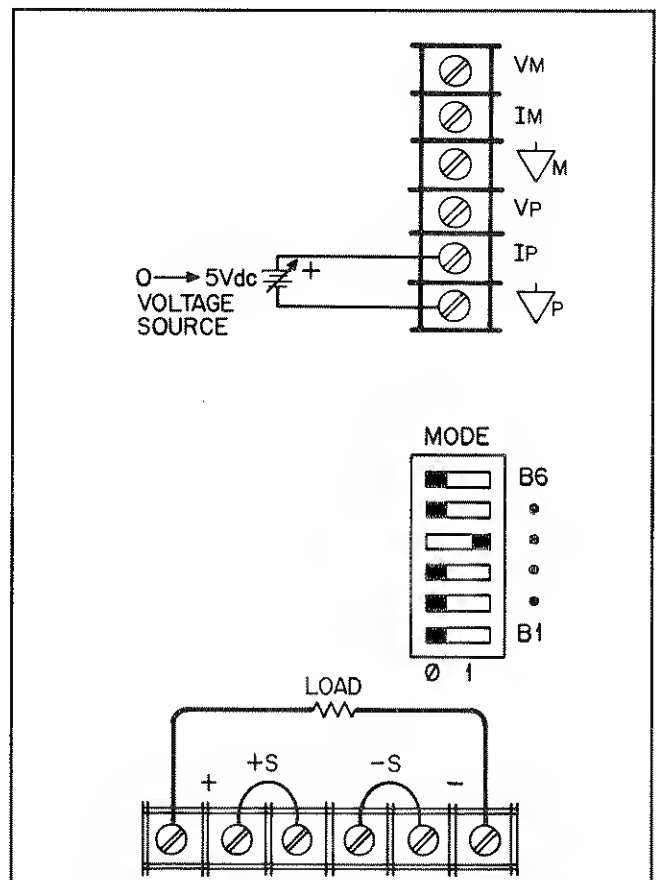

Figure 3-13. Voltage Programming of Output Current
**3-206 Constant Current Output, Voltage Control.** The setup shown in Figure 3-13 allows the output current to be varied by using an external voltage current to program the supply. The discussions in paragraphs 3-201 through 3-203 also apply for constant current operation. The note following paragraph 3-204 applies also to programming output current.